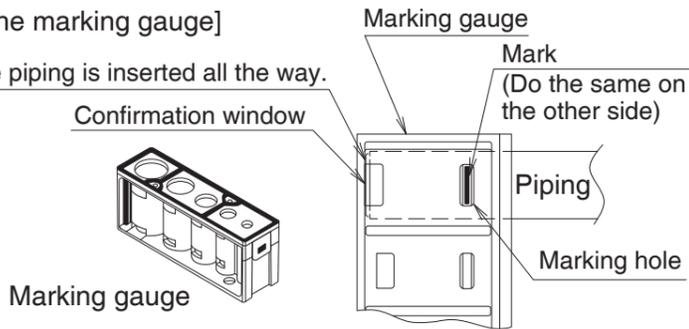

Fig. 5-1
- (1) Insert the pipe fully into the marking gauge or plastic nut to check pipe ovality and that the pipe is clear of external and internal burrs.
- (2) Using the confirmation window, make sure that the piping is inserted all the way into the marking gauge.
- (3) Make a mark through marking hole with an oil-based pen, etc. (2 locations) (See Fig. 5-1, 5-2)